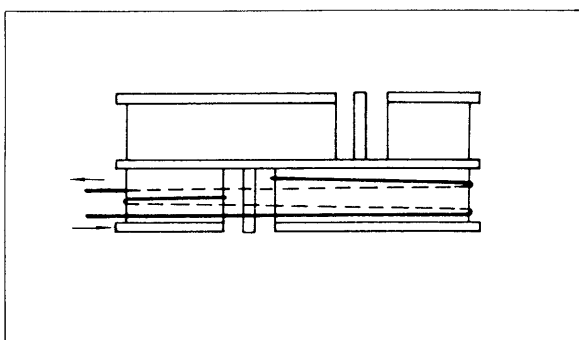

Fig. 2-8. Wrapping the dial cord
2. Run the cord through the slot in the rim of the drum and wrap a clockwise turn in the inner side groove. See Fig. 2-8.
4. Run the cord over pulleys "B", "C" and "D" then wrap one clockwise turn around the drum from outer groove to inner groove as shown in Fig. 2-8.